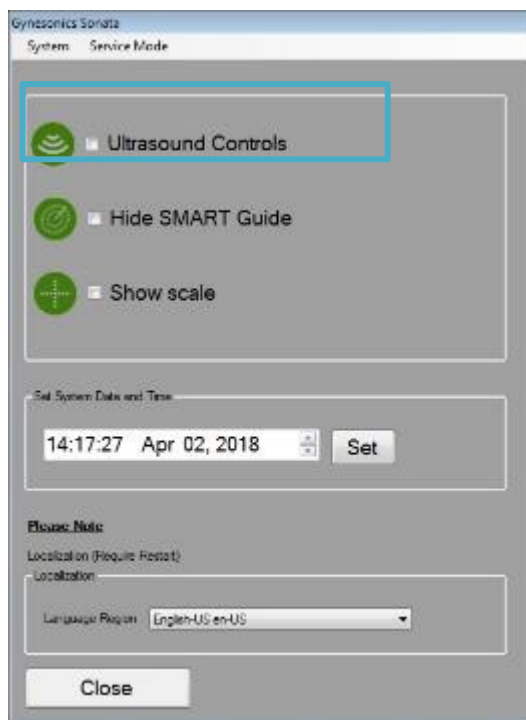

Figure 6-4. Preferences window with Ultrasound Controls selected.
- Select Ultrasound Controls, see Figure 6-4. The Ultrasound Controls icon will be displayed on the bottom left of the ultrasound display screen.
- Click the Ultrasound Controls icon to display the Ultrasound Parameters window, see Figure 6-4.